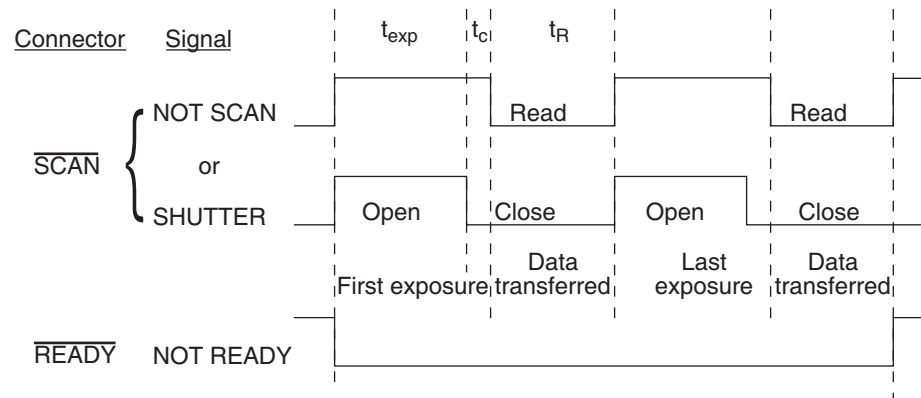

Figure 27. Comparison of NOT SCAN, SHUTTER, and NOT READY Logic Output Levels
- **READY:** After a start acquisition command, this output changes state when the camera is ready to begin the first exposure or is ready to receive an **EXT TRIG** signal. Initially high, it goes low to mark the beginning of the first exposure. In free run operation it remains low until the system is halted. If a specific number of frames have been programmed, it remains low until all have been taken and then returns high. Figure 27 assumes 2 frames have been programmed.